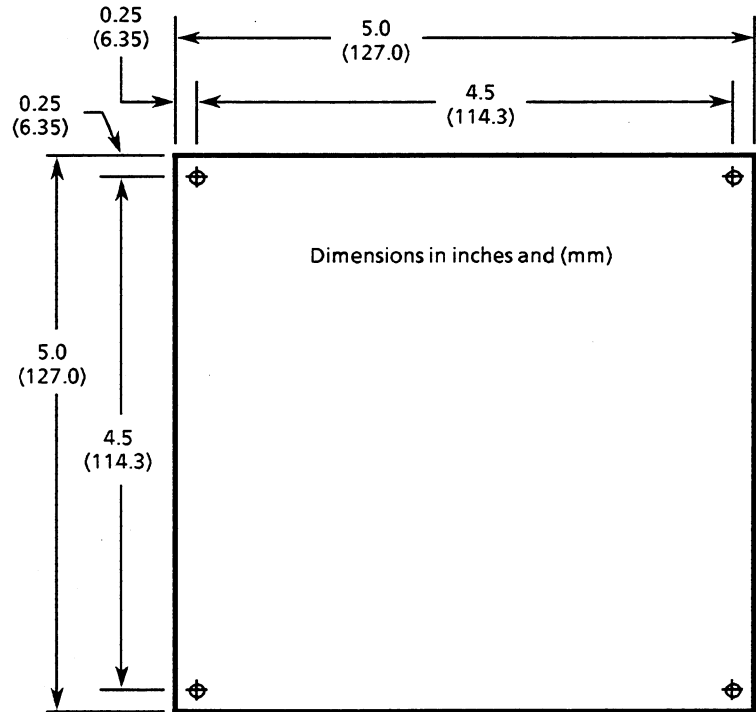

Figure 1 – BCD Interface Adapter Board Dimensions
3. Using the board and the dimensions provided in Figure 1, mark the location of the holes to be drilled.
4. Drill four (4) - 1/4" (6.35mm) holes at the locations marked in the previous step.